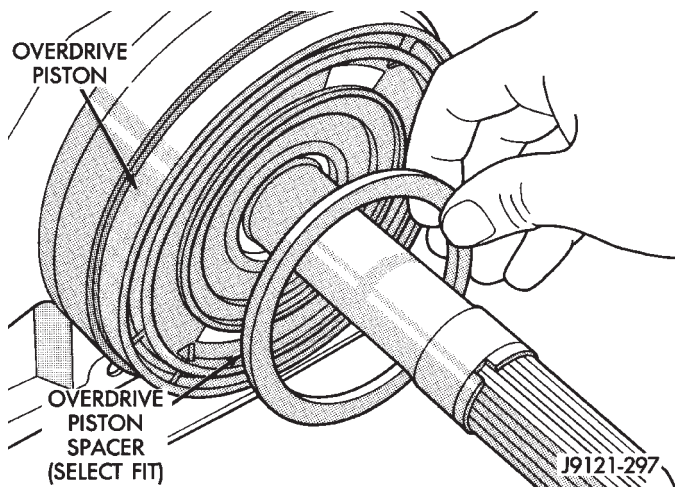

Fig. 1 Overdrive Piston Thrust Plate Removal/Installation
(1) Remove overdrive piston thrust plate (Fig. 1). Retain thrust plate. It is a select fit part and may possibly be reused.